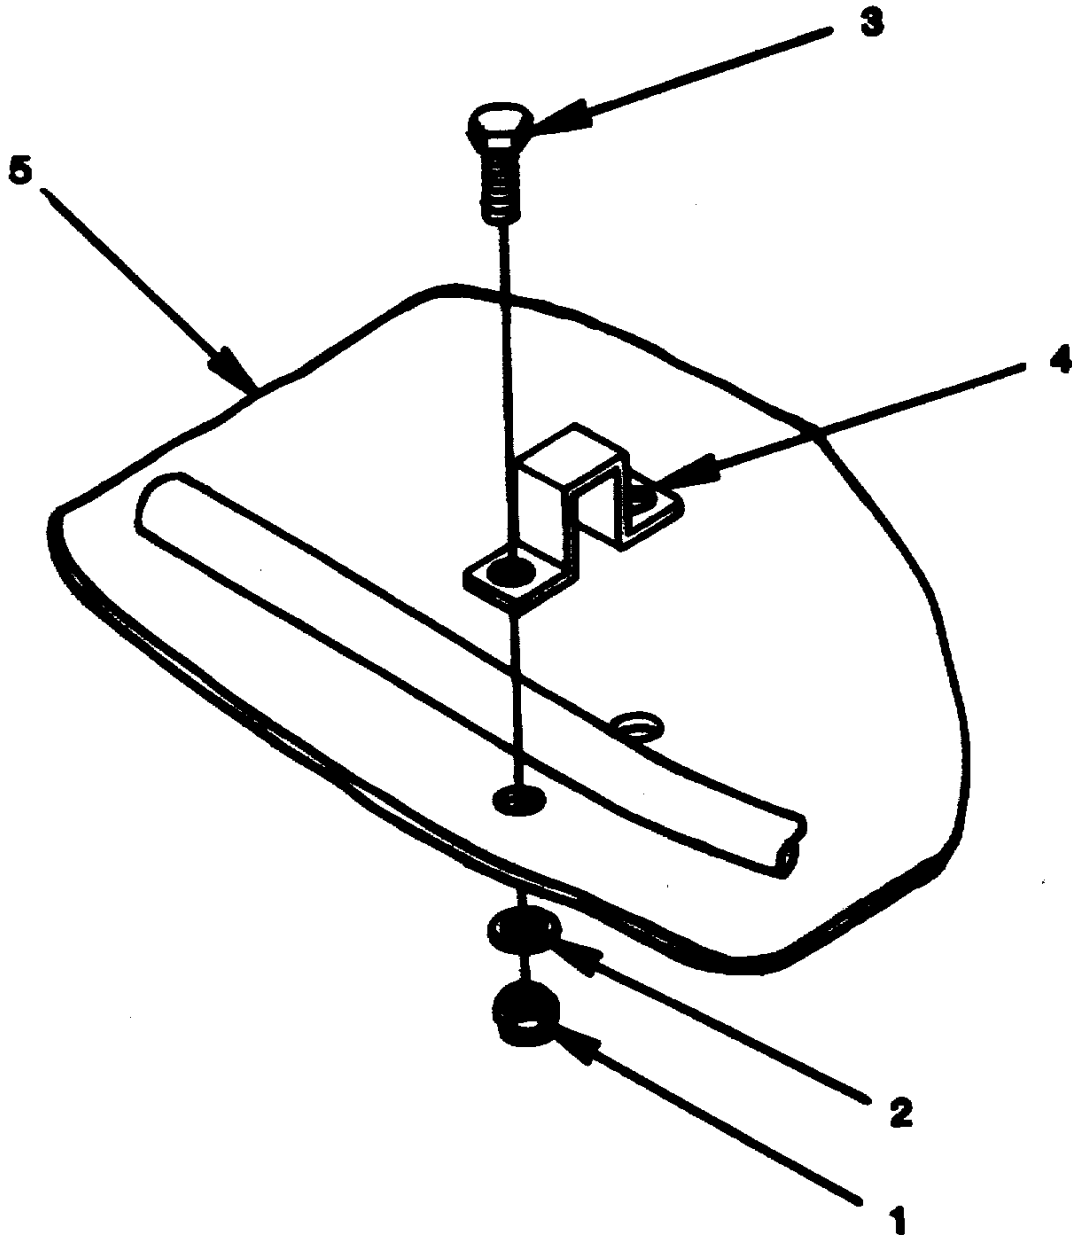

Figure 4-21. Switch Box Power Cable Bracket Replacement.
- (1) Remove locknut (1, figure 4-21), flat washer (2), and screw (3) securing bracket (4) to trailer (5).
- (2) Remove bracket from trailer.